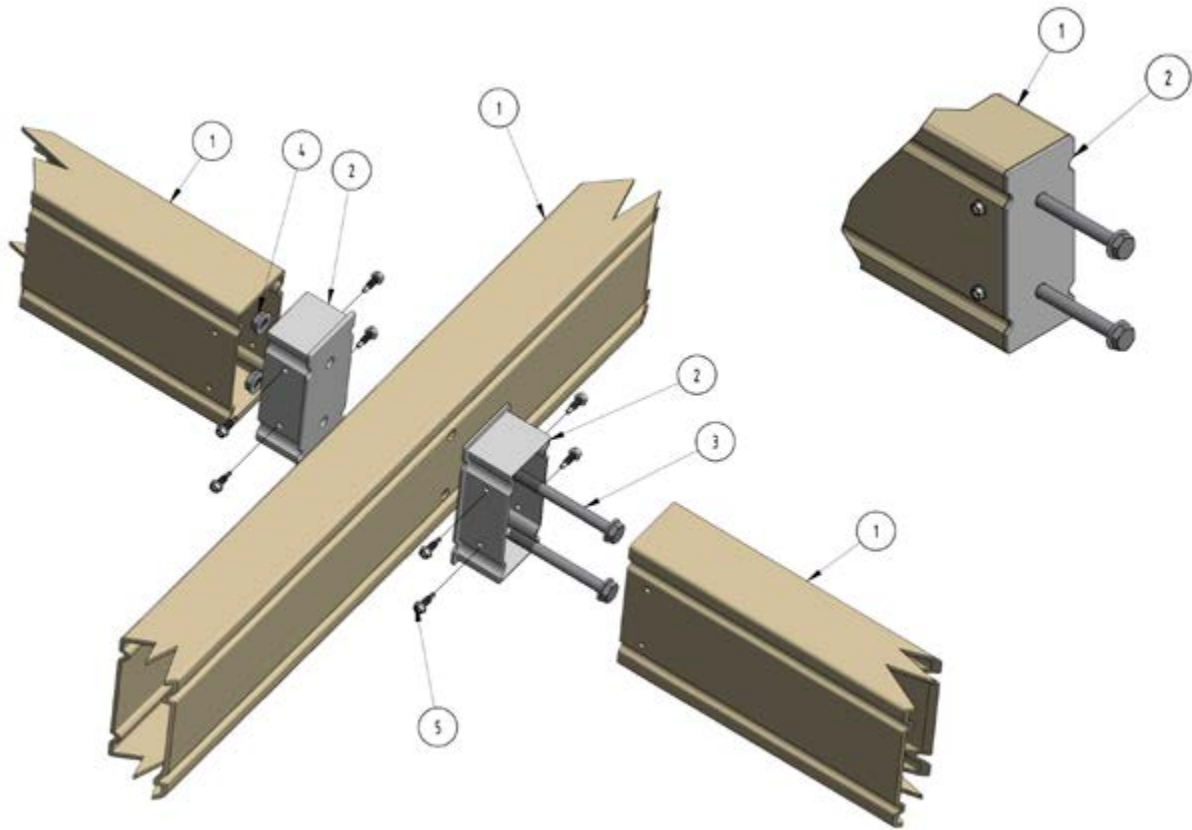

Figure A47
**Aluminium Beam to Beam Joiner (See Figure A47)**